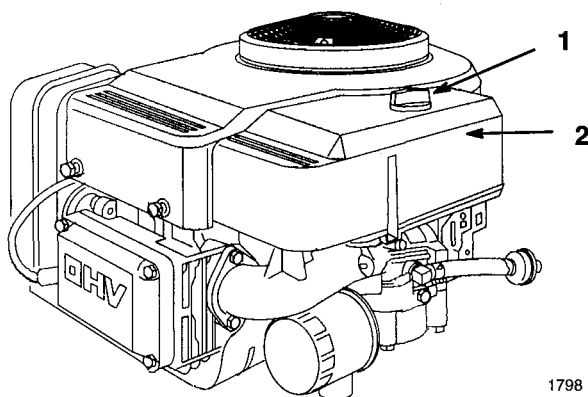

Figure 12
3. Clean around the air cleaner to prevent dirt from getting into the engine and causing damage. Unscrew the knob and remove the air cleaner cover (Fig. 12).
3. Install the air cleaner cover and knob (Fig. 12). Tighten the knob snugly.